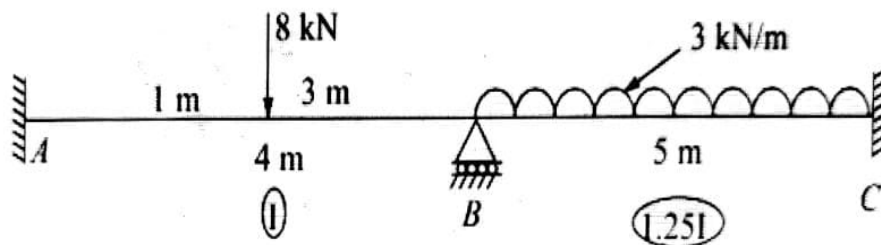

Fig 3
13. A renovation of a structural building was done and the concrete continuous beam was replaced with universal beam. Loading on each span were determined and presented on figure 3. Using three moment theorem, determine the moments and shear force in each support. (20 Marks)